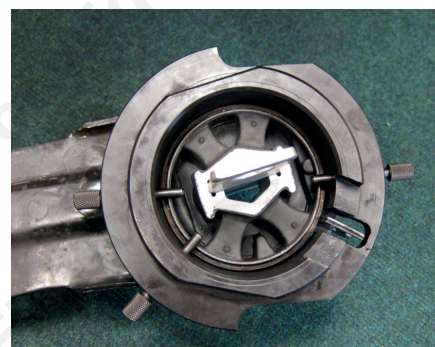
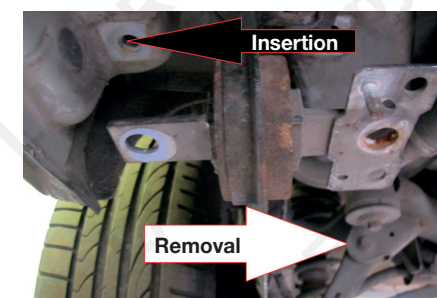

Fig 7
Fig 3
- Apply a small amount of grease to the insertion pins and fit the 3 pins in to the holes provided on the side of the insertion ring. **Fig 7 and 9.**
- Take the fitting/extraction ring and position it against the opposite side of the arm to the direction that the old bush came out from. See **Fig 3**. There are 2 machined flats on the ring that allow the ring to sit flat against the arm. **Fig 7**.
NB: Due to the shape of the bush it can only be removed and inserted in the directions indicated in **Fig 3**.